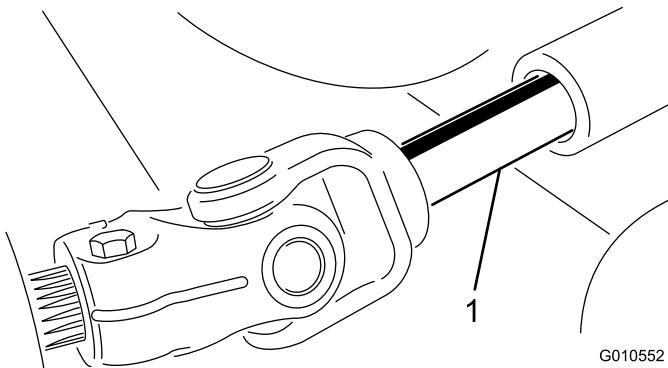

Figure 20
5. Roll the cutting unit away from the traction unit, separating the male and female sections of the PTO shaft (Figure 20).
3. Slide the male PTO shaft into the female PTO shaft (Figure 20).